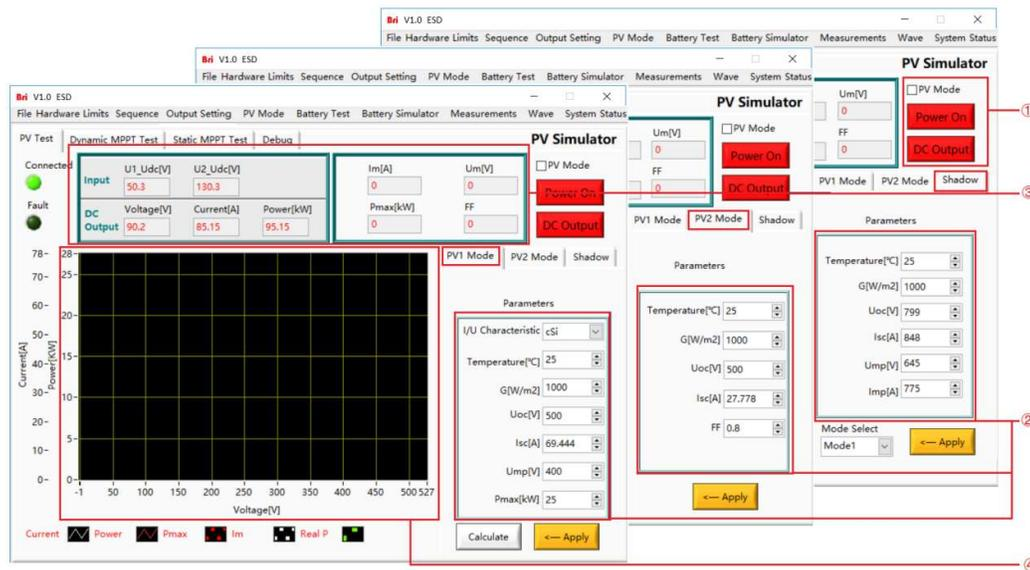

Figure 5-14 I-V curve setting
I-V curves can be created by entering simple parameters, and each curve contains 1024 data points. The performance of the grid-connected inverter under real conditions (cloud shading and panel temperature increase) can be tested by modifying the radiation level and temperature. There are three methods for setting the I-V curve, such as PV1, PV2, and shadow (such as Figure5-14).
Check the PV Mode (PV Mode) and click "Power On" → "DC Output" to turn on the power. Set I/U characteristics (crystalline silicon/thin film mode), temperature (Temperature), irradiance (G [W/m2]), open circuit voltage (Uoc), short circuit current (Isc), peak voltage (Ump), maximum power (Pmax) and other parameters (Figure 5-14②), click "Calculate" → "Apply" button, the software automatically calculates, Pm, Um, Im, FF parameter values are displayed in real time at the top of the panel (Figure 5-14③), and generate I = f (U) and P = f (U) curves in the waveform display area (Figure 5-14④).
Set the temperature (Temp of Module), irradiance (Irradiance), open circuit voltage (Uoc), short circuit current (Isc) and other parameters of the photovoltaic module (Figure 5-14②), after pressing the "Set" button, the software automatically Calculate Pm, Um, Im, fill factor (FF) and other parameter values are displayed on the top of the panel (Figure 5-14④), and generate I = f (U) and P = f (U) curves in the waveform display area.
In the shadow setting page, two modes can be selected. The user can set the temperature (Temp of Module), irradiance (Irradiance), open circuit voltage (Uoc), short circuit current (Isc), peak voltage (Ump), peak current (Imp) and other parameters of the photovoltaic module of the module (Figure 5-14③), after pressing the "Set" button, the software automatically calculates the Pm, Um, Im, FF parameter values and displays them at the top of the panel (Figure 5-14④), generate I = f (U) and P = f (U) curves in the waveform display area.